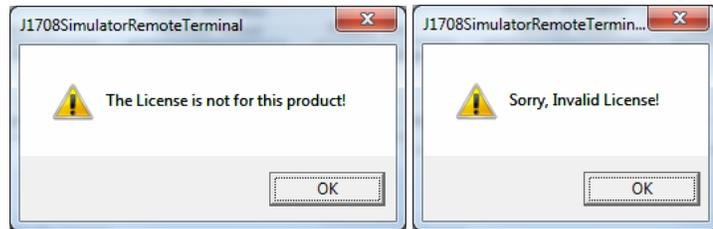

Figure 6-11
- 5. Each Au J1708/J1587 Simulator will have a unique Serial Number and may have a different Product ID (J1708/J1587 Simulator Edition). If the license code is invalid, an error message will pop up, as shown in Figure 6-11